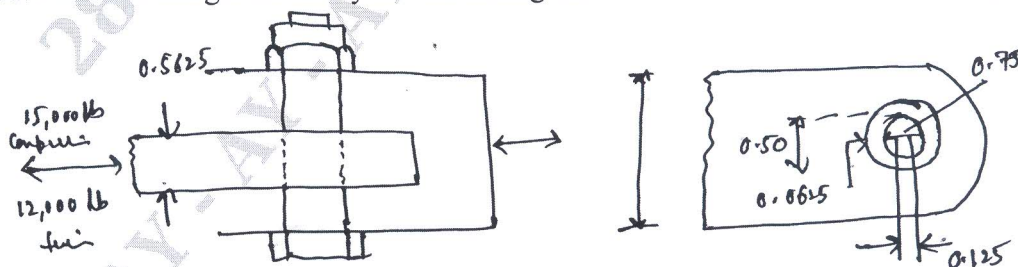

Fig.Q8(b)
- b. The fitting shown in Fig.Q8(b) is made of a 1014 aluminium forging for which $\sigma_{at} = 65,000$ $\tau_{a1} = 39,000$ and $\sigma_{ab1} = 98,000$ lb/m². The bolt and bushing are made of steel for which $\sigma_{at} = 125,000$; $\tau_a = 75,000$ and $\sigma_{abr} = 175,000$ lb/m². The fitting resist limit or applied load of 15,000 lb compression and 12000 lb tension. A fitting factor of 1.2 and a bearing of 2.0 are used. Find the margin of safety for the fitting for various failures. (14 Marks)